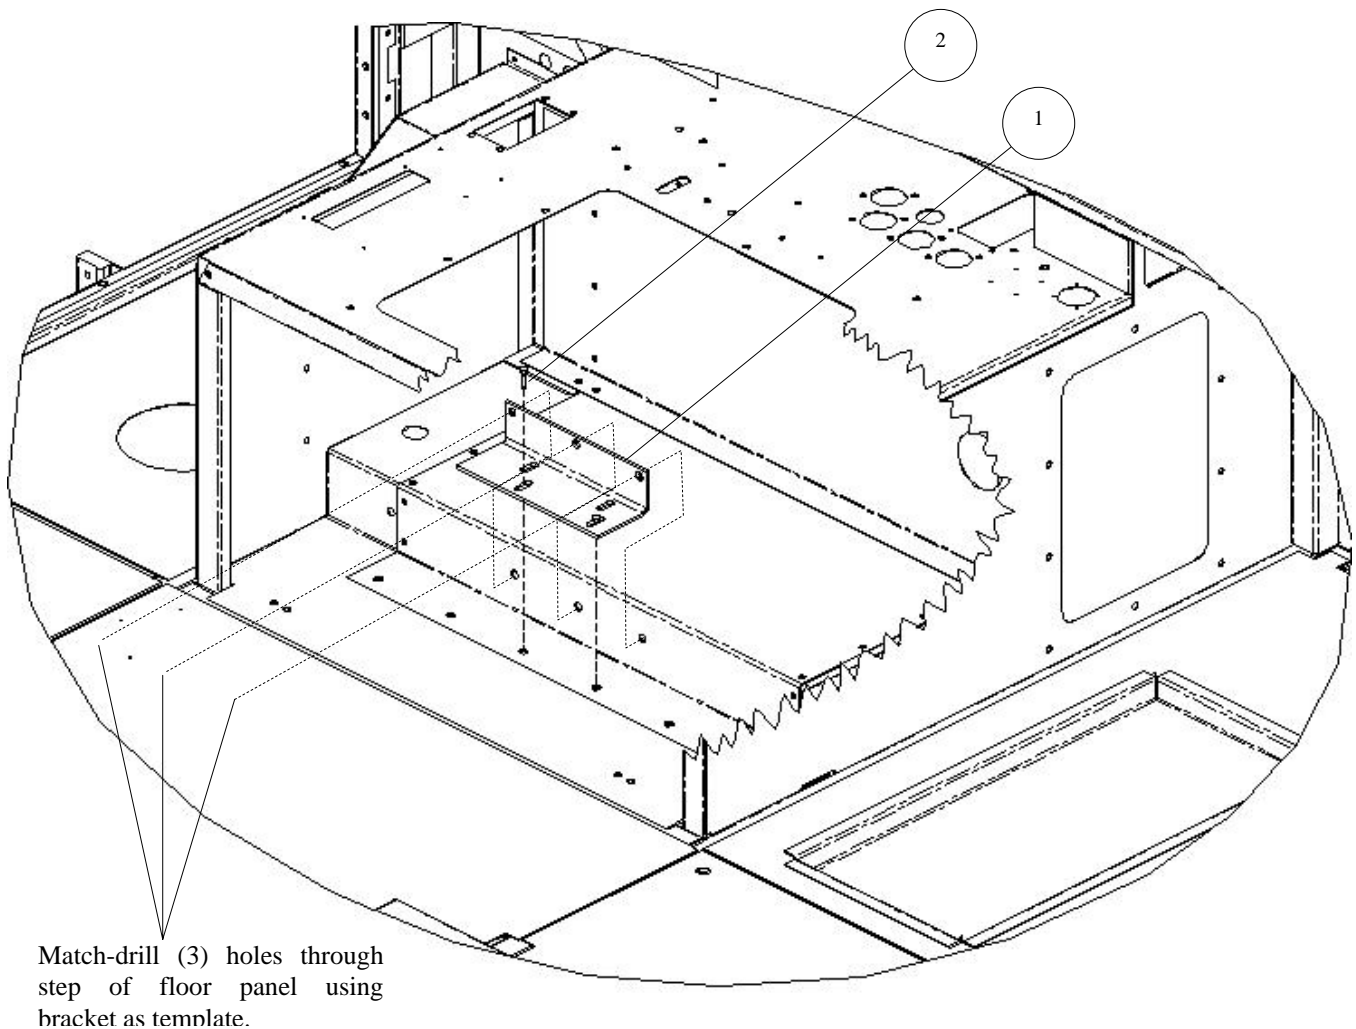

Figure 3-39. Match-Drill Doghouse Floor Panel.
1. Match-drill doghouse floor panel as follows (see Figure 3-39):
- a. Install one upper doghouse bracket (1) into position against the doghouse floor panel, aligning two back slots in the bracket (1) with two middle holes in floor panel and secure with two bolts (2). Tighten bolts for temporary use.
- b. Using upper doghouse bracket (1) as a template, match drill three 1/2-inch holes into the vertical step of the doghouse floor panel.
- c. Remove two bolts (2) and upper doghouse bracket (1) and set aside for future use.